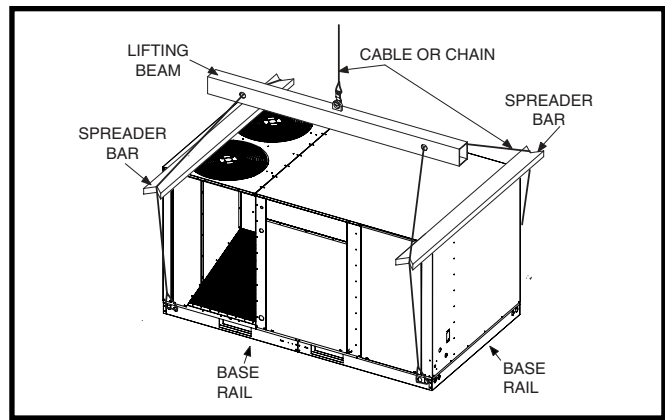

Figure 4. Rigging & Hoisting
- Spreader bars are required to protect the unit and ensure even loading. See Figure 4 \(page 9\).